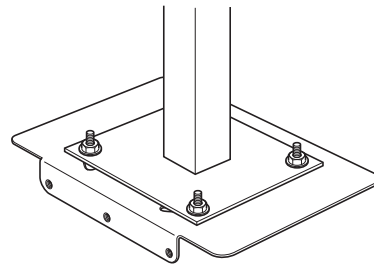

Figure 13
When the EXT10 Extension Pole will be used, attach the “Inner Pole” end to combined Plate #2 and #3 (instead of Plate #2) using four (4) 5/16-18 inch nuts and washers provided. Refer to Figure 13.